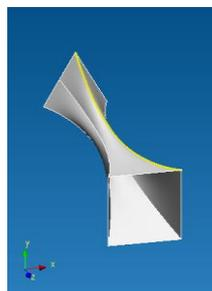

Fig. 2.7.14
- Fig. 2.7.14 Result of Lofting command without using map points